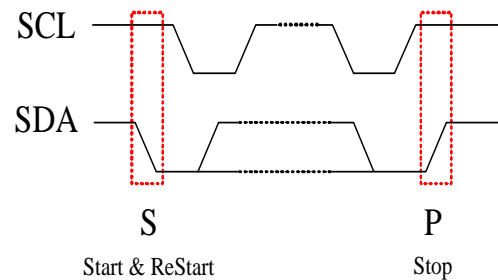

Figure 3-21 Start & Stop Timing
- 3) Start/Re-Start: SDA change from high to low while SCL is high, see Figure 3-21;
- 4) Stop: SDA change from low to high while SCL is high, see Figure 3-21;